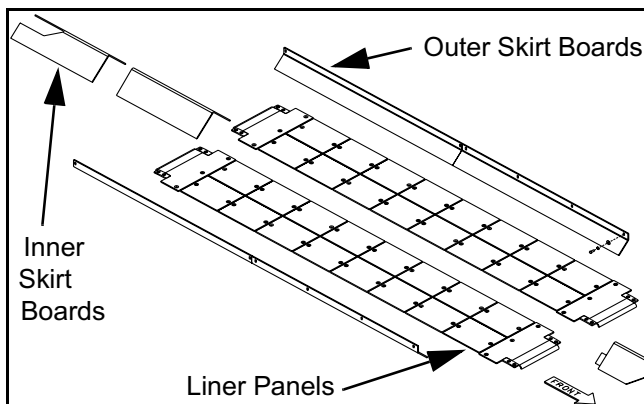

Figure 6 - 22 Replacing hopper liners
- 3) Remove outer front and center front skirt boards. (Figure 6 - 22)